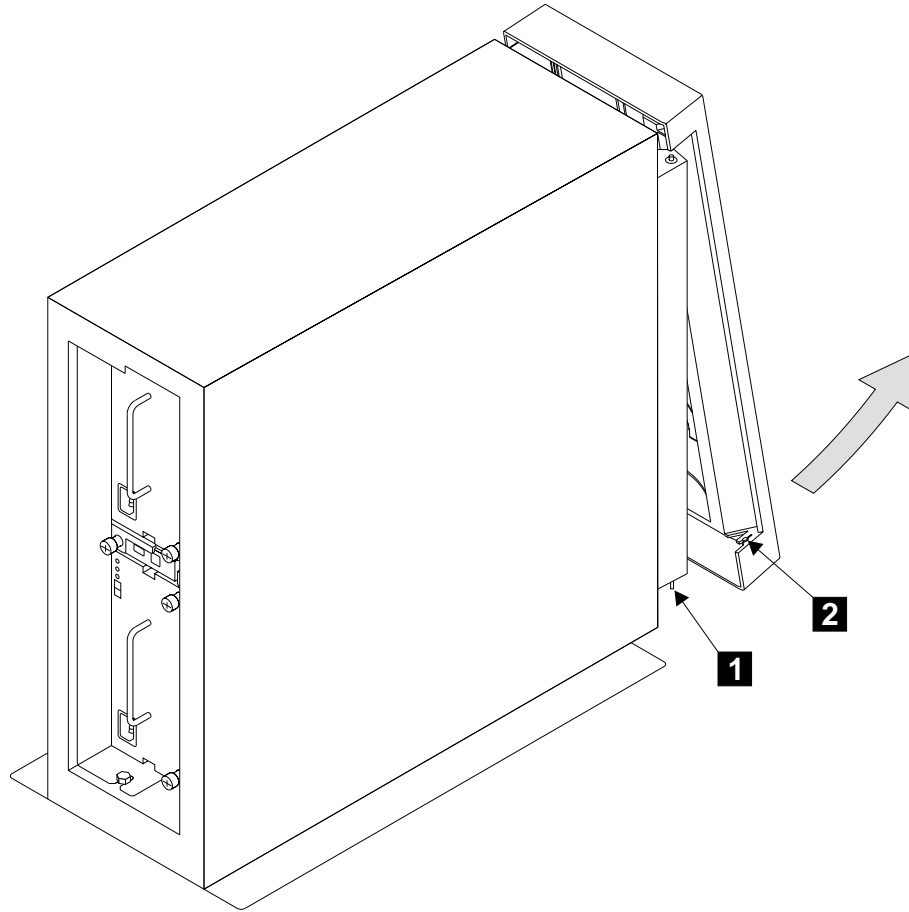

Figure 18. Removing the Front Cover of a 2104 Model TL1 (1)
- Step 5. If you want to remove the cover, refer to Figure 18 on page 59.